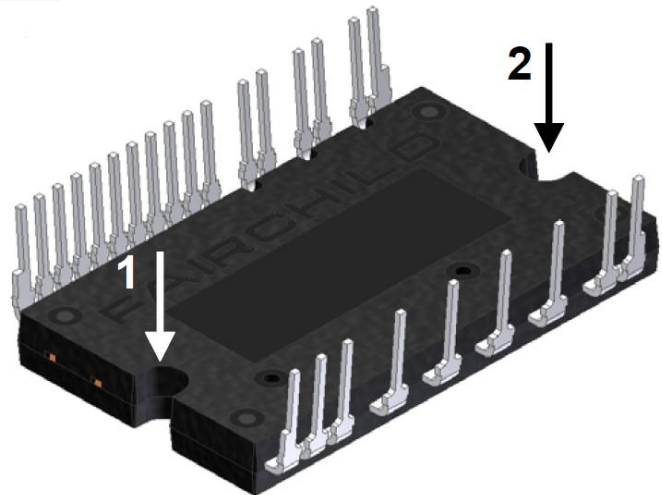

Figure 1. Mounting Screws Fastening Order: Pre-Screwing: 1 → 2; Final Screwing: 2 → 1
When installing a module to a heat sink, excessive uneven fastening force might apply stress to inside chips, which can lead to damage or degradation of the device. An example of recommended fastening order is shown in Figure 1.
2. Avoid one-side tightening stress, Figure 1 shows the recommended torque order for mounting screws. Uneven mounting can cause the SPM ceramic substrate to be damaged. The pre-screwing torque is set to 20~30% of maximum torque rating.